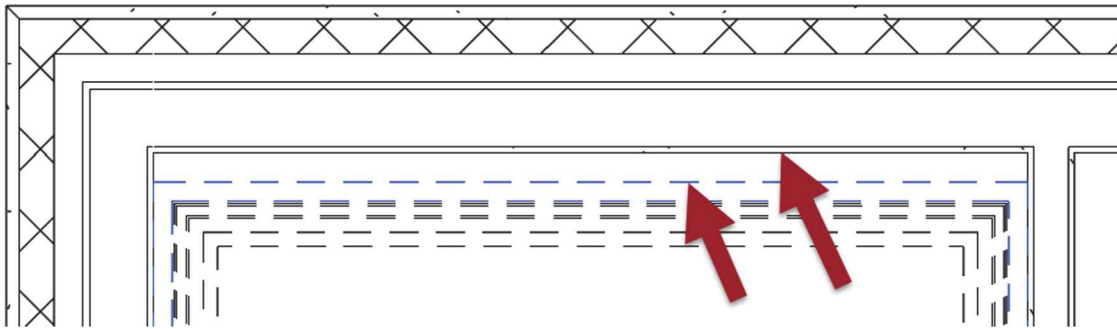

FIGURE 7-7.7 Moving stair north to align with exterior wall
12. Click to select on the northern-most dashed line, which represents the stringer/support, and then click perpendicular on the exterior wall – note the two arrows in Figure 7-7.7.